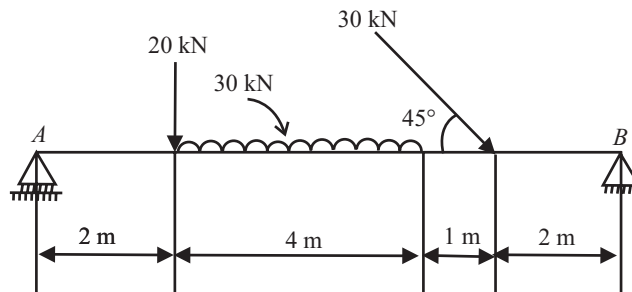

Fig 8.36
Q. 15: Find the reactions at supports *A* and *B* of the loaded beam shown in fig 8.36.